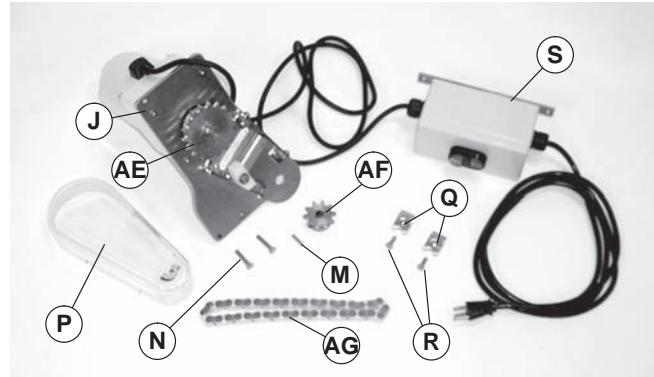

Figure 9
1. Typical components (Figure 9)